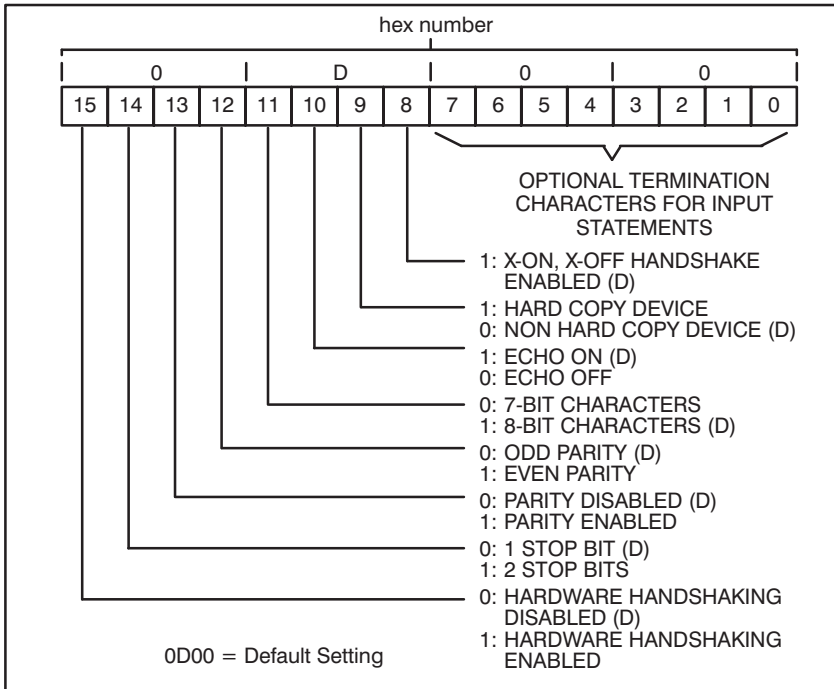

Figure 4.1 - Specifying the SETUP Parameter in an OPEN Statement
Refer to figure 4.1 for information about the OPEN statement SETUP parameter for the AutoMax Processor. Defaults are indicated by (D).